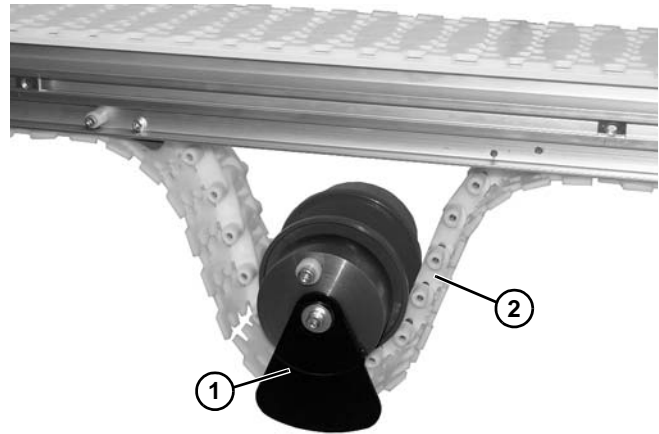

Figure 97
- Remove idler pulley assembly (Figure 97, item 1) from belt (Figure 97, item 2).